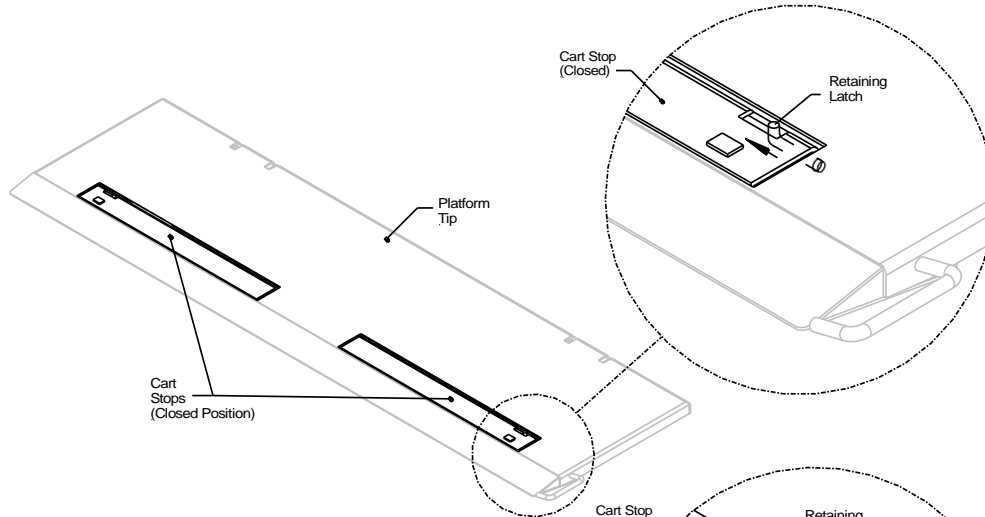
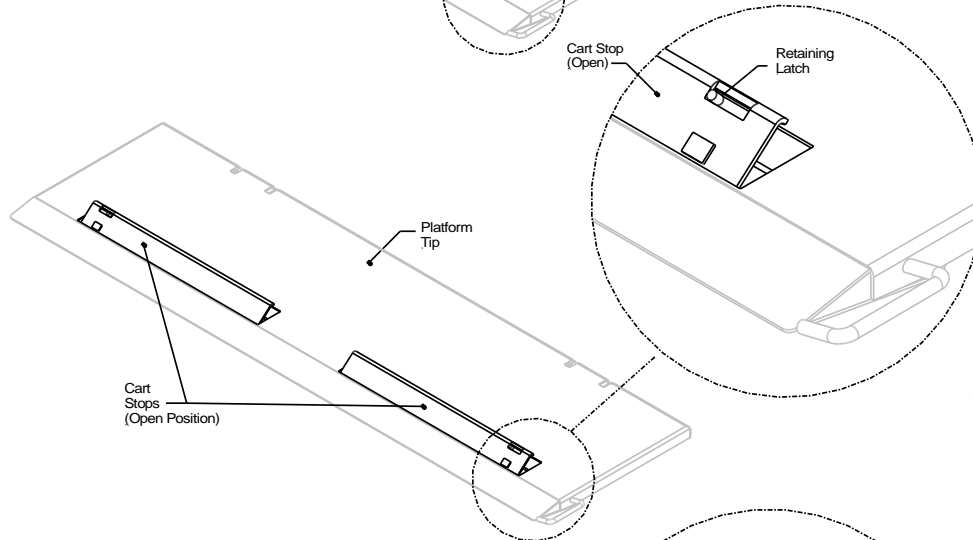

Fig. 17
Fig. 18
1. Each cart stop is equipped with a retaining latch. Push each latch inward to open the cart stop, **Fig. 17**. The cart stop will automatically spring open once the latch has been pushed, **Fig. 18**.